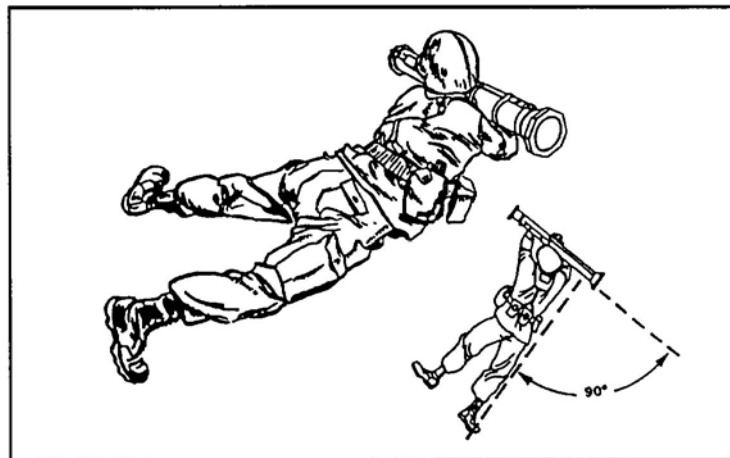

Figure 4. Prone Position
- (4) The prone position (Figure 4).